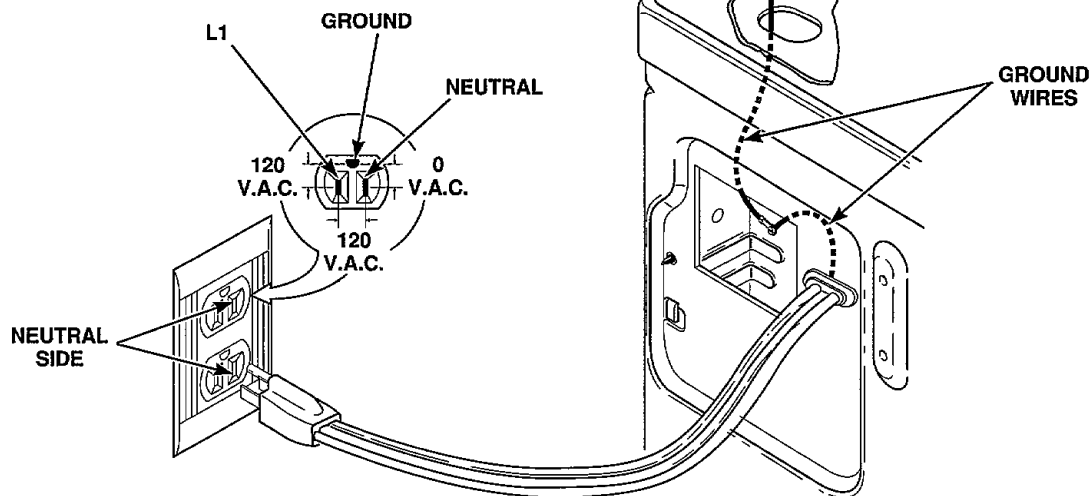

Figure 3
3. POWER CORD TO REAR BULKHEAD AND FROM REAR BULKHEAD TO CONTROL HOUSING. WALL RECEPTACLE POLARITY CHECK (Gas Models Only — *Figure 3*).